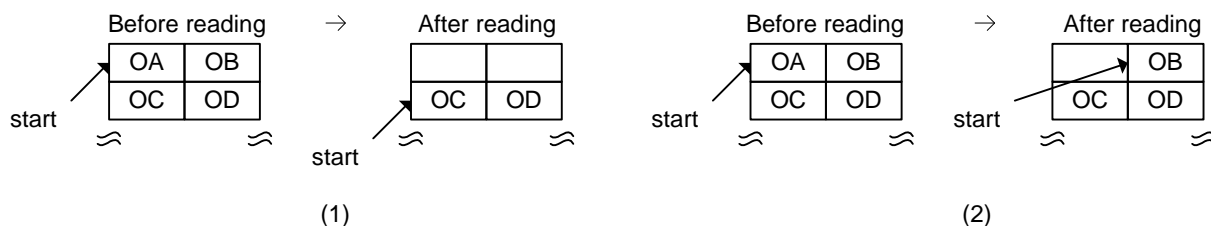

Fig. 1.79 FIFO reading processing (normal operation)
Fig. 1.79 (1) shows the situation when word-reading from a state without byte boundaries. Data A and B followed by data C and D are read out for each access. Fig. 1.79 (2) shows the situation when byte-reading. For each access, data is read out in the sequence A, B, C, and D. These are the normal read operations.